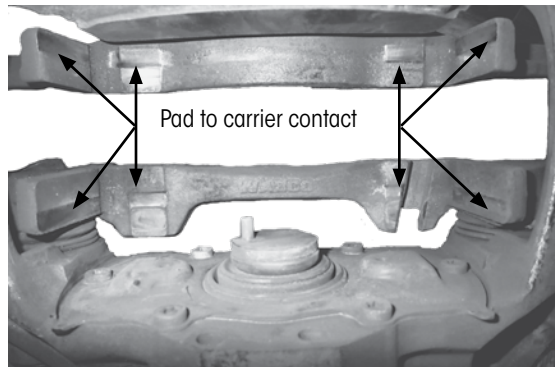

Figure 11: Pad to carrier contact areas
1. Visually inspect the carrier where the brake pads contact the carrier, Figure 11.
2. If grooving can be felt using your fingernail, then carrier “pound-out” has occurred, Figure 11. Replace the caliper assembly.